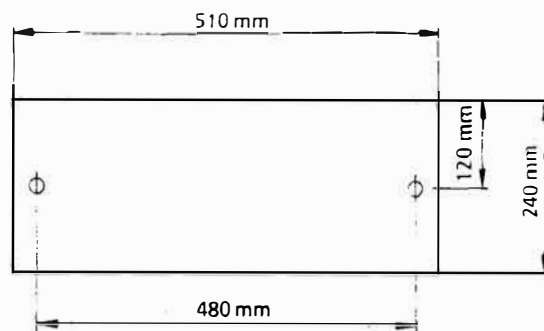

Figure 200-17 Floor Mounting the KSU
1. Assembly of the floor mount bracket is required. (Refer to Figure 200-17 Floor Mounting the KSU